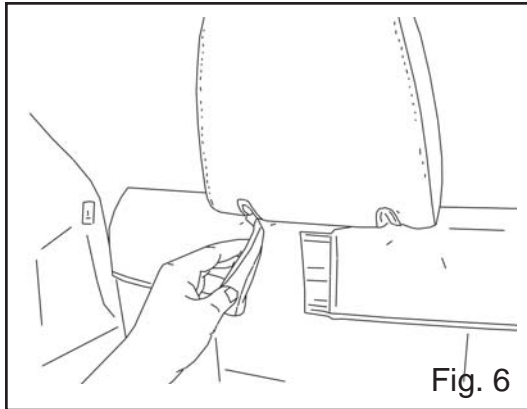

Fig. 6
- 6 Secure the cover to the third row seats by attaching the hook and loop fasteners below the headrests. (Fig. 6 and 7)